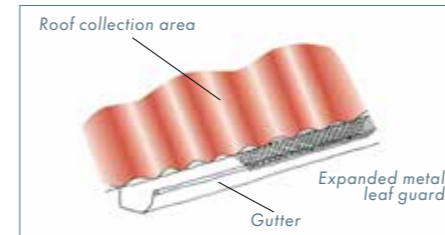

Figure 1 - Leaf guard for gutters
- Install mesh leaf guards over gutters (Figure 1).